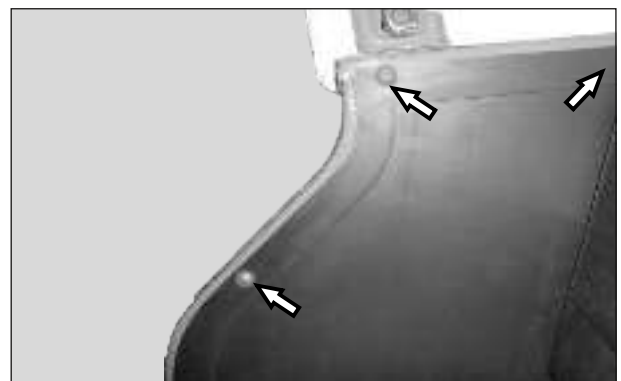

Fig. 5.89
- Loosen and remove 6 nos. CRR pan head screw (M6x16) from side cover passenger seat LH and RH. (Fig. 5.89)